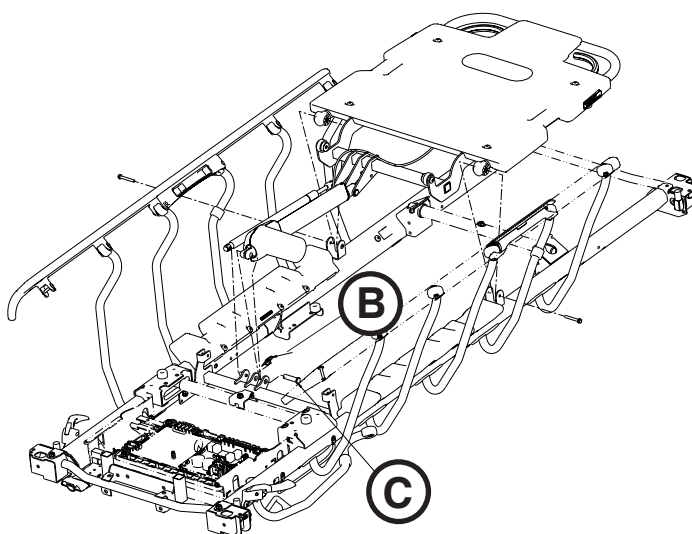
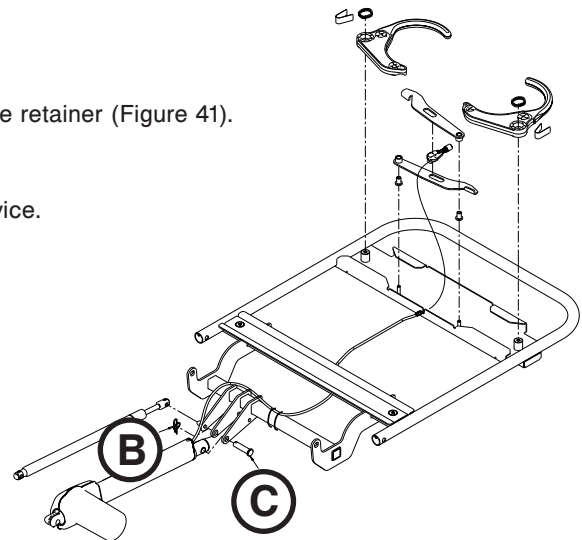

Figure 39
Figure 40
8. Using needle nose pliers, remove the rue ring cotter (B) from the clevis pins (C) on the head end and foot end of the actuator (Figure 39 and Figure 40 on page 60).
9. Support the actuator with one hand and remove the clevis pins (C) from the head end and foot end of the actuator (Figure 39 and Figure 40 on page 60). Set the actuator on the fowler litter skin.
- Install the actuator by installing the foot end clevis pin (C) and rue ring cotter (B) first (Figure 39 on page 59 and Figure 40).
- Install the head end clevis pin (C) and rue ring cotter (B) (Figure 39 on page 59 and Figure 40).